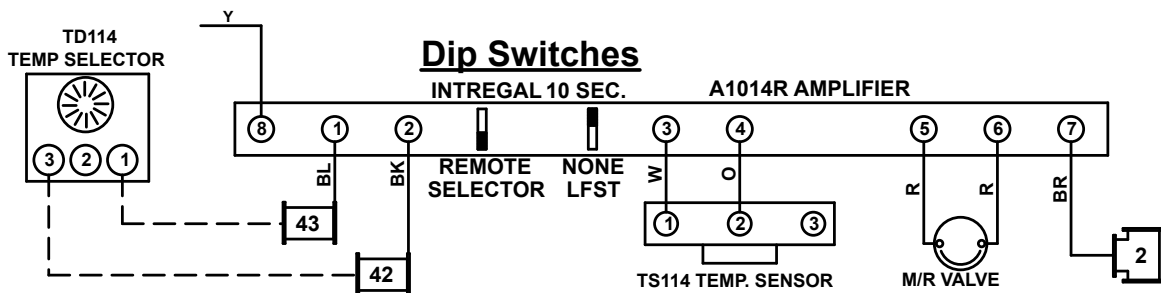

Figure 65. Replacement Amplifier Wiring Diagram (PN 148590)
- (1) Position replacement amplifier in same location where existing amplifier was mounted and secure using screws.
- (2) Connect wire terminals from kit to all disconnected amplifier wires.
- (3) Connect wiring to replacement amplifier in accordance with Figure 65. Set two recessed dip switches on upper left corner of amplifier to positions as shown.